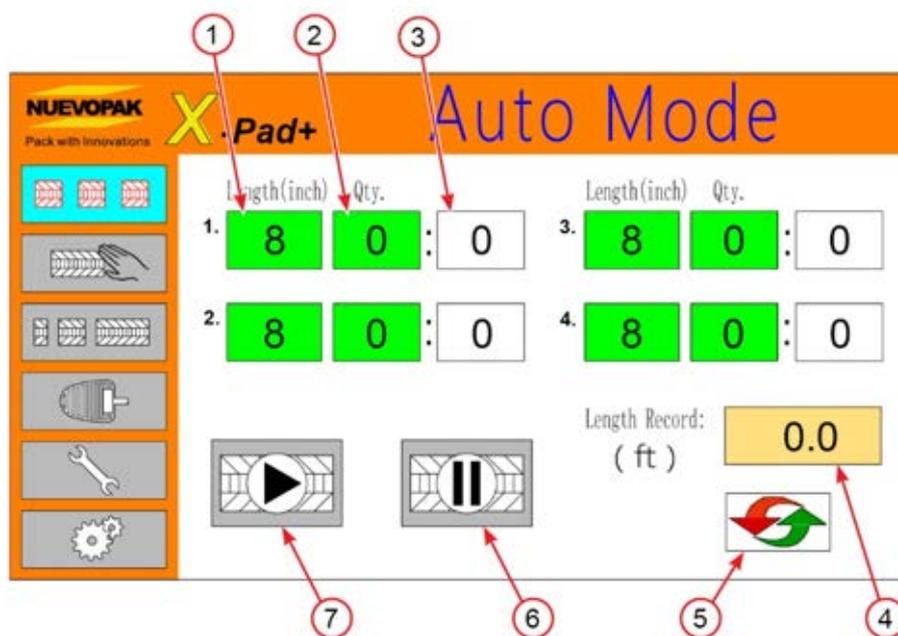

Figure 28 Auto Screen
5. Select the preferred **Dispenser Mode** on the **HMI** (refer to Figure 28).
1. Use the Menu Bar to select different modes (refer to Figure 28).